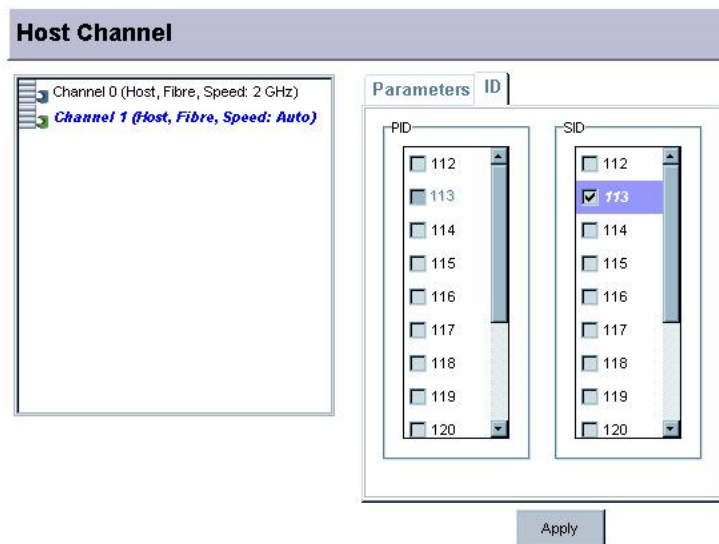

Figure 8-5: ID Pool Menu
Step 3. If you want to assign a different ID to the selected channel, choose the **ID** panel. An **ID pool** scroll menu will appear as shown in *Figure 8-5*.